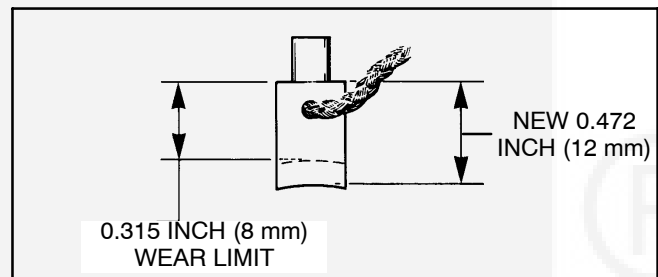

FIGURE 8-32. BRUSH INSPECTION
**Brush Inspection:** Measure brushes (Figure 8-32) and replace if worn less than 0.425 (11 mm).